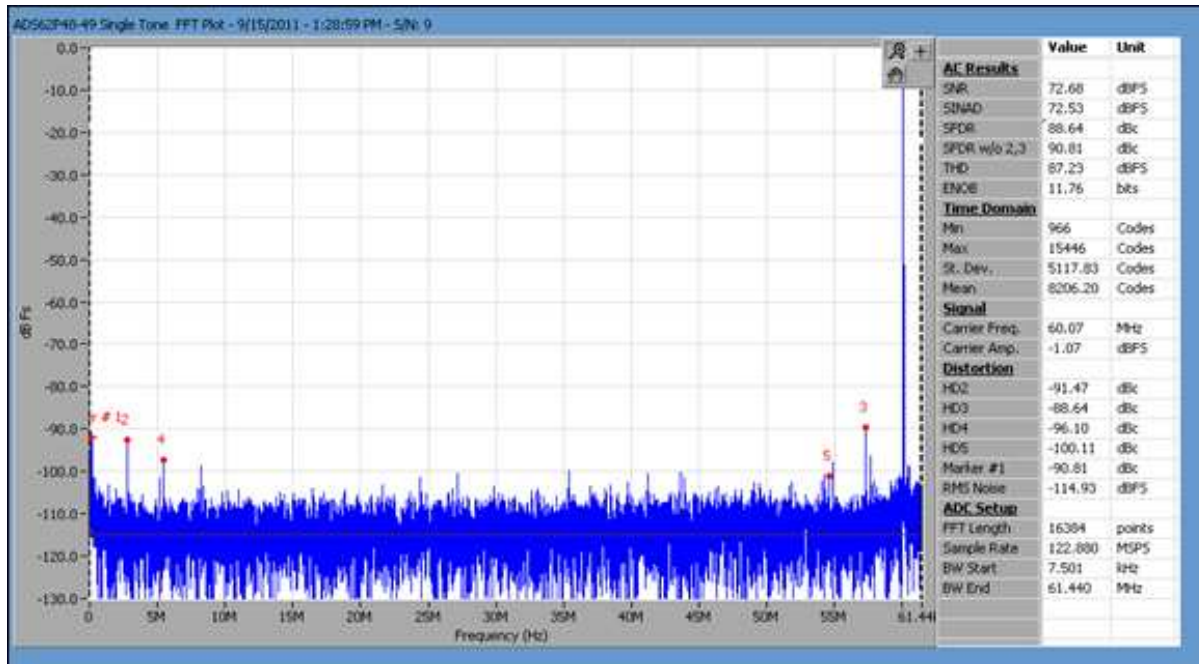
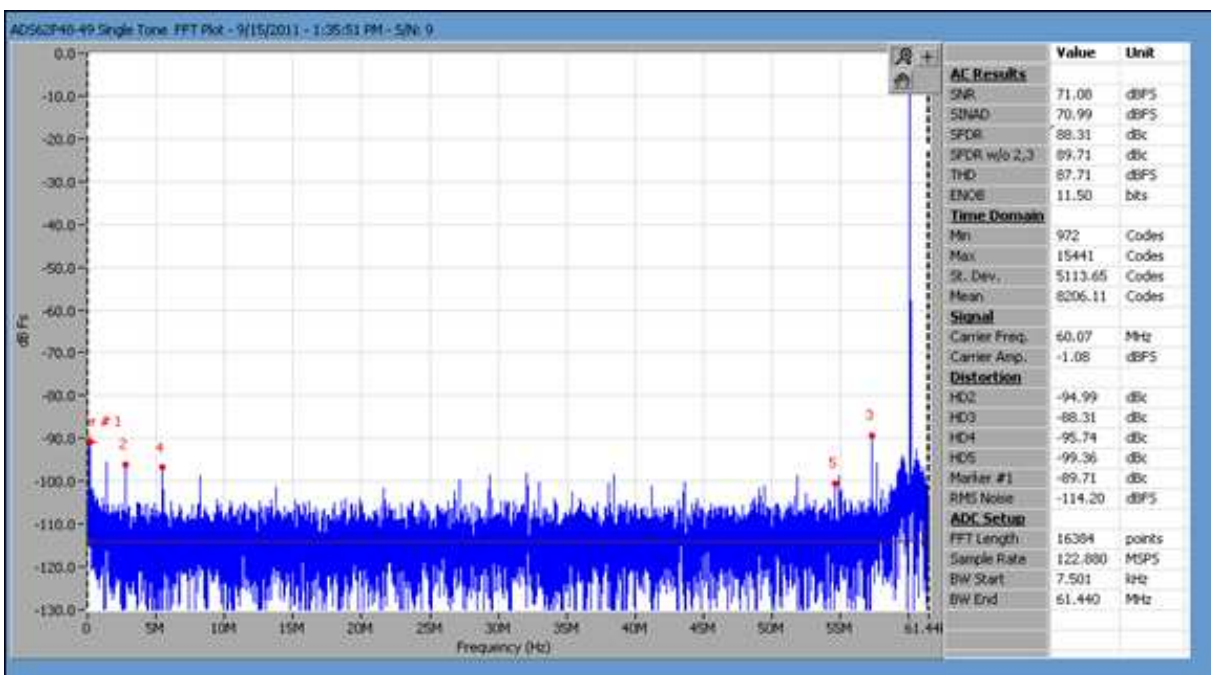

Figure 52. IF = 60 MHz Fclk = 122.88 MHz Baseline (Lab Clk Generator) ADC: ADS62P48-49
Figure 53. IF = 60 MHz Fclk = 122.88 MHz CDCM6208 driving ADC
**Observation:** up to an IF = 100 MHz, The ADC performance when driven by the CDCM6208 (Figure 53) is similar to when the ADC is driven by an expensive lab signal generator with additional passive source filtering (Figure 52).